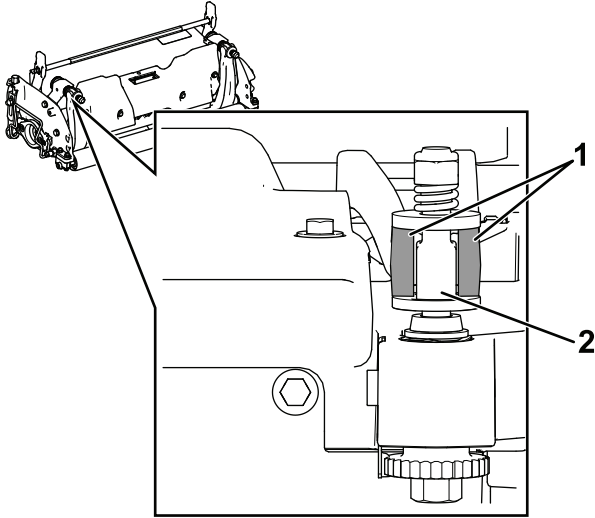

Figure 25
**Important:** Center the DPA adjusters in the bedbar ears as shown in Figure 25.